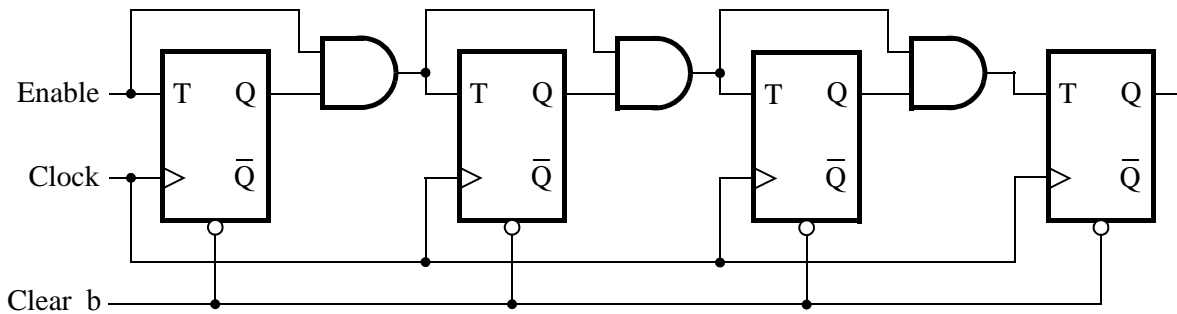

Figure 1: A 4-bit counter.
Consider the circuit in Figure 1. It is a 4-bit synchronous counter that uses four T-type flip-flops. The counter increments its value on each positive edge of the clock if the *Enable* signal is 1 (*i.e.* high). The counter is reset to 0 by setting the *Clear_b* signal low, which means that the clear is an **active-low asynchronous** clear. (In Logisim, all the input signals are asynchronous active high by default.) You should implement an 8-bit version of this counter.
1. Draw the schematic for an 8-bit counter using the same structure as shown in Figure 1. **(PRELAB)**
2. Annotate all Q outputs of your schematic with the bit of the counter ($Q_7Q_6Q_5Q_4Q_3Q_2Q_1Q_0$) that they correspond to (where Q_7 is the most significant bit and Q_0 is the least significant bit. Label the inputs according to the diagram in Figure 1. **(PRELAB)**